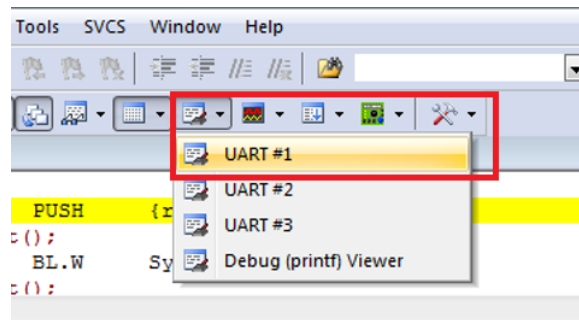

Figure 1.8: Keil IDE: Enable UART Window View
5. Choose UART#1 from the Serial Windows button (see Figure 1.8). You will see the UART#1 window shown up at the bottom right part of the screen (see Figure 1.9).